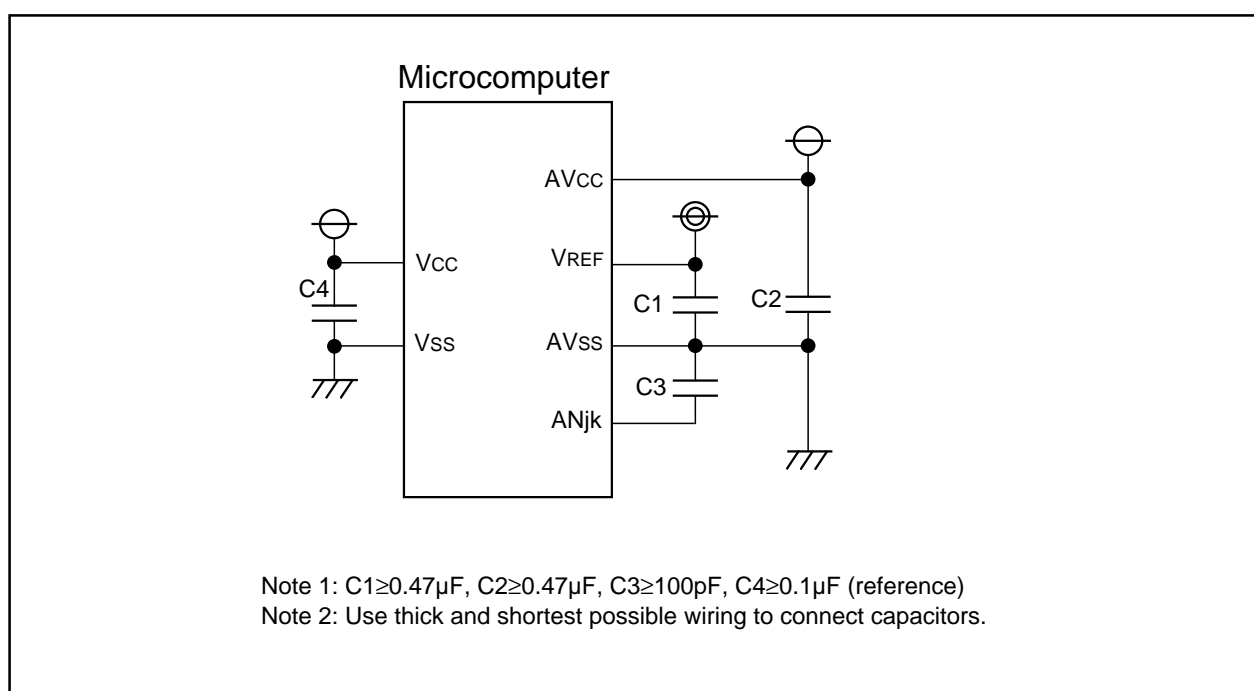

Figure 27.2 Use of Capacitors to Reduce Noise
- Insert capacitors between pins AVCC, VREF, analog input pin ANjk ($j=\text{none}, 0, 2, 15$; $k=0$ to 7) and AVSS to prevent latch-ups and malfunctions due to noise and to minimize conversion errors. The same applies to pins VCC and VSS. Figure 27.2 shows the procedure.